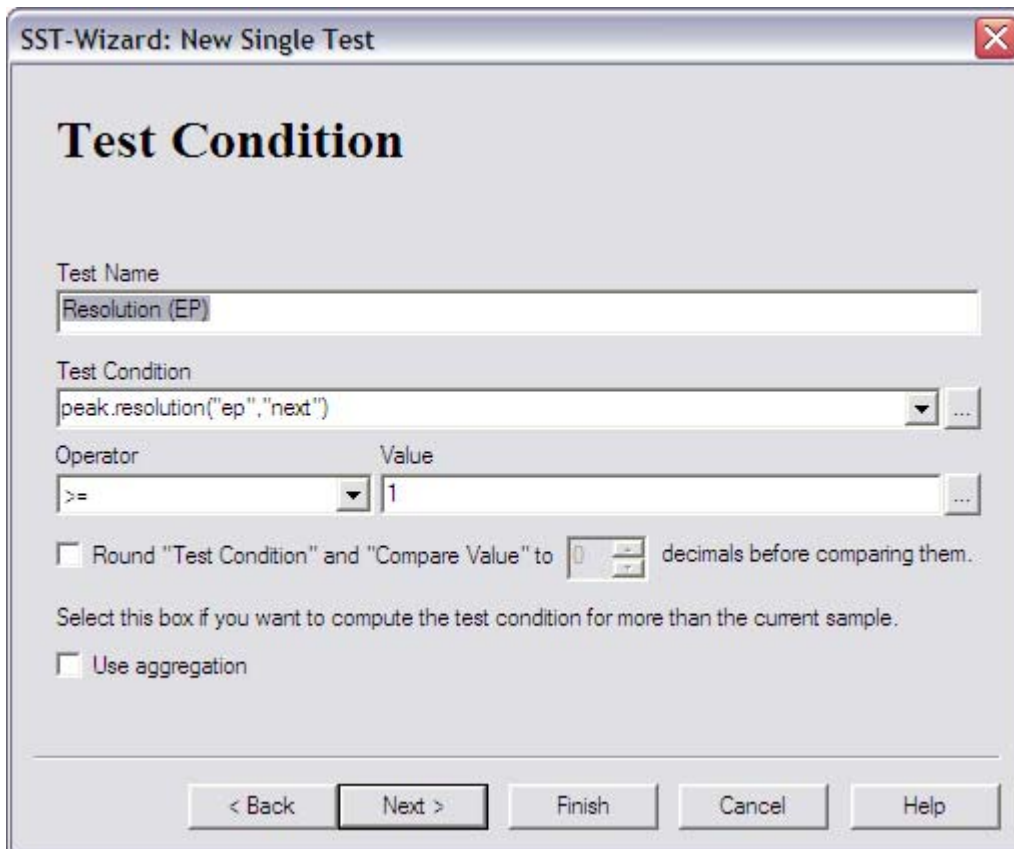

FIGURE 3-18: SST Properties **Test Condition**.
3. The test parameters can be set in **Test Condition** (FIGURE 3-18). In this example, the resolution to the next peak is specified.